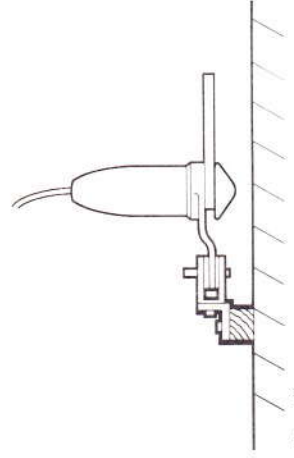

Fig.16
In cases where the steering wheel is mounted on a bulkhead, special provision usually must be made to mount the drive unit. (L) brackets are available to mount the clevis on a bulkhead as shown (Fig.16).